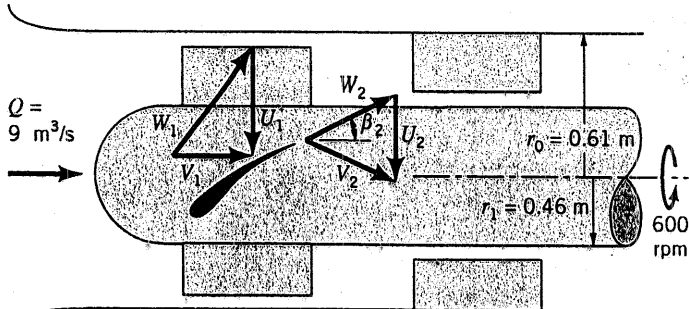

FIGURE P12.44
12.44 The single-stage, axial-flow turbomachine shown in Fig. P12.44 involves water flow at a volumetric flowrate of  $9 \text{ m}^3/\text{s}$ . The rotor revolves at 600 rpm. The inner and outer radii of the annular flow path through the stage are 0.46 and 0.61 m, and  $\beta_2 = 60^\circ$ . The flow entering the rotor row and leaving the stator row is axial when viewed from the stationary casing. Is this device a turbine or a pump? Estimate the amount of power transferred to or from the fluid.
12.45 Describes what will happen when the flow through the turbomachine of Fig. P12.44 is in the opposite direction (right to left) and the shaft is freed up to rotate in response to the reversed flow.